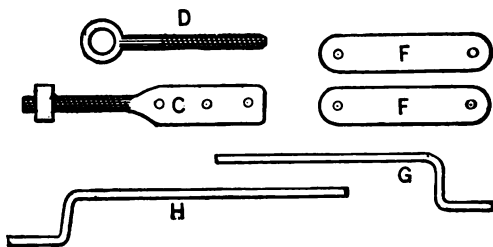

Fig. 66—Iron Work for Brake.
Fig. 66 shows some of the iron work required to make the brake. *F F*, Fig. 66, are two iron plates
*D*, Fig. 66, is an eye bolt which goes in *D*, Fig. 65, and to which the rod *H*, Fig. 65, is attached. Any kind of a ratchet may be used. *G* and *H*, Fig. 66, are iron straps used at *C C*, Fig. 65.